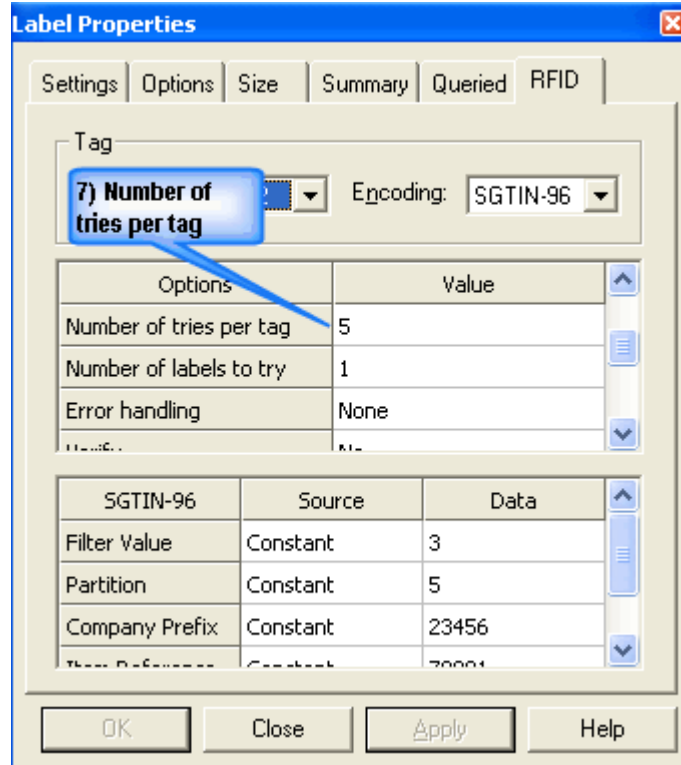

Figure 2
6. Scroll down in the upper dialog box to enter the next set of values. Figure 2.